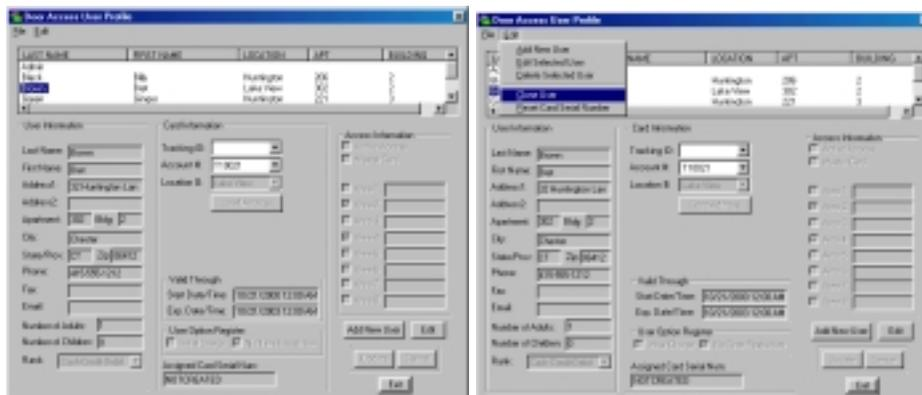

Figure 11.25 Cloning a User
1. In the Door Access User Profile window click the user to clone from the Users List Window (Figure 11.25).
2. Select Clone User from the Edit drop-down menu (Figure 11.25).